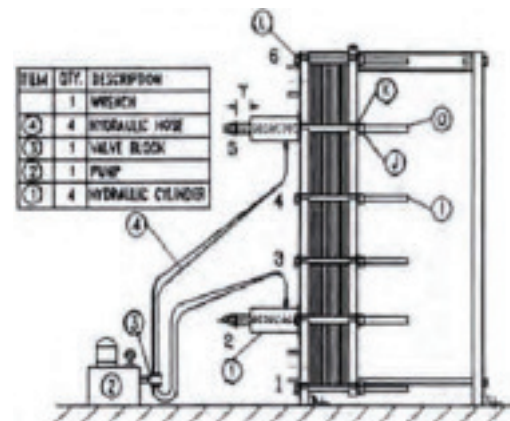

Figure 4.2 Hydraulic Opening of FLO PLATE
- With a wrench, loosen the hexagonal nuts (Item J, Figure 4.2) from the two pairs of tie rods (Item 0) In positions 2 & 5 (also shown In Figure 4.2)
4. Install the nuts (Item L. Figure 4.2)